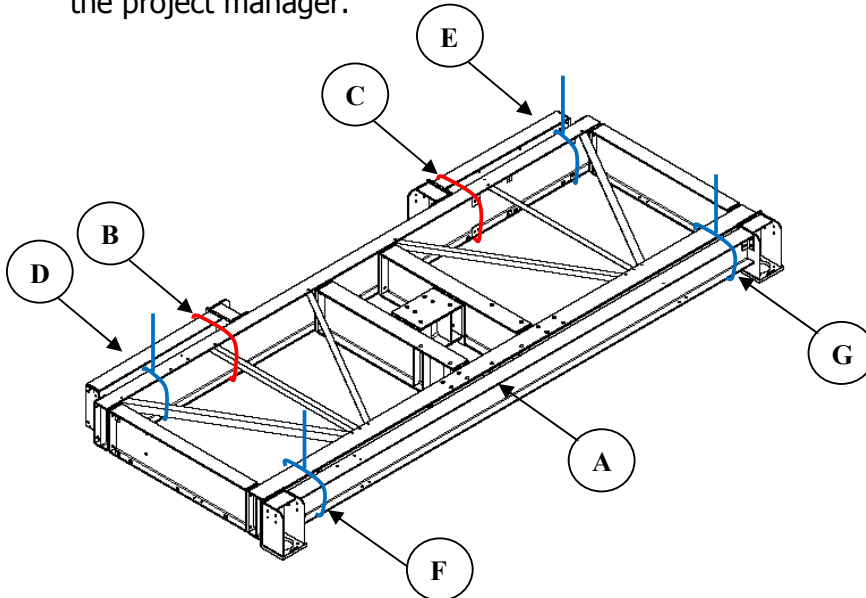

Figure 1 – Steel banding / stops (in red colour) securing hinged arms to main frame. Slings (in blue colour) attached to main beams for lifting.
3. The grillage will generally arrive in a single piece as shown in Figure 1, with two arms folded in to the main body of the frame. The beam labelled A is temporarily secured at this position and is to be relocated during site assembly. The hinged arms can separate during lifting because they are connected to the main body via hinges. It is important that the beams are secured together at points B and C as shown in Figure 1. Frames are generally supplied with the arms held in place with steel banding. If for any reason this is not the case, strops must be used to secure the arms. **Always check that the beams are held in place before lifting.**
- Secure the lifting slings around the main beams at point D to G as shown in Figure 1.